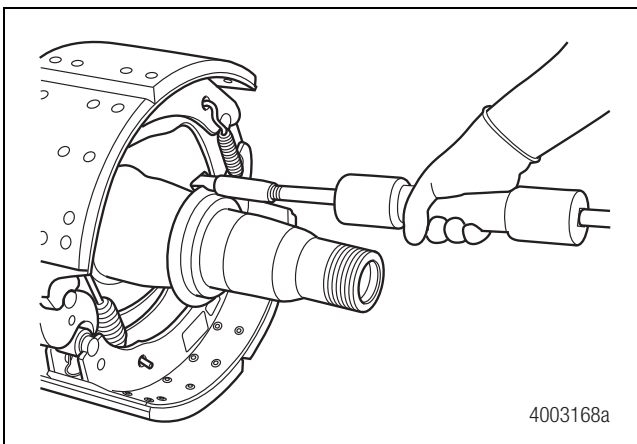

Figure 3.10
14. An alternate method is to use a slide hammer with a hook on the end of the tool. Figure 3.10.